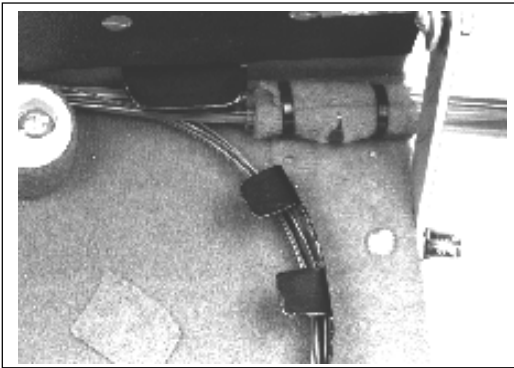

FIGURE 28 - SECURE TRANSPORT TUBES
14.09 Using the tie wraps provided, secure all the transport tubes to the inside tie wrap locations. (Figure 28)